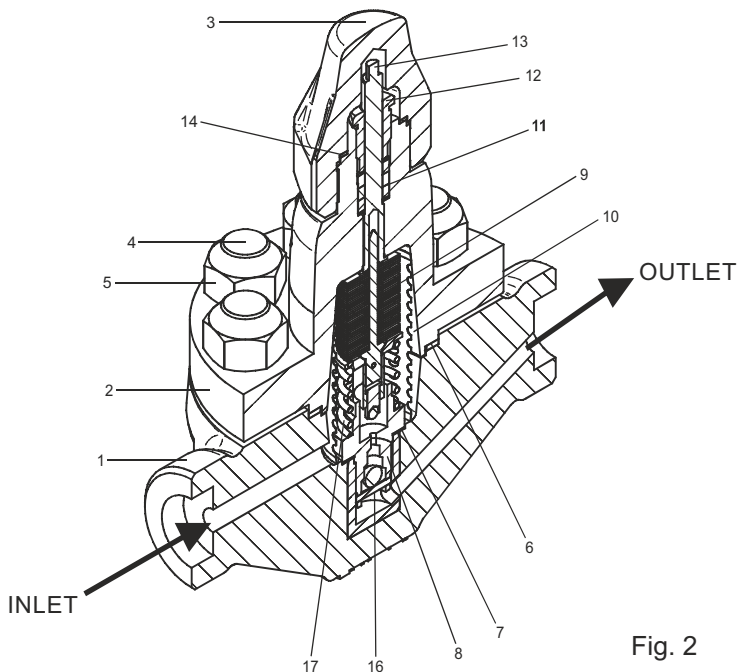

Fig. 2
7.4 Procedure for Disassembly and Service : (Refer Figure 2)
7.5 Reassembly : Refer to Figure 2